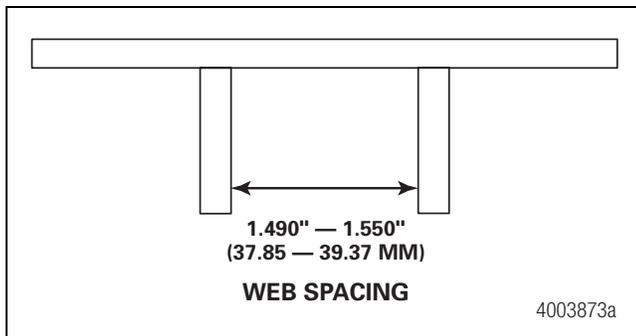

Figure 3.7
- Measure the distance between the webs on the brake shoes at both ends. The web spacing should be 1.490-1.550-inches (37.85-39.37 mm) measured 1.0-inch (25.4 mm) from the edge of the slots. Replace the shoe if the web spacing is not within specification. Figure 3.7.